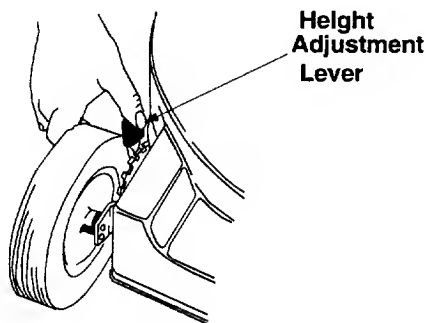

Figure 9
- Simply depress the lever towards wheel and move it to any of the nine positions for the desired cutting height. See Figure 9. All four levers on the four wheels must be placed in the same relative position for uniform cutting height.